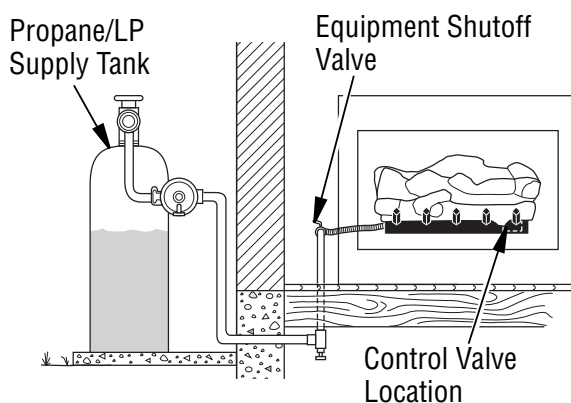

Figure 15 - Checking Gas Joints (Propane/LP Only)
3. Check all joints from gas meter to equipment shutoff valve for natural gas or propane/LP supply to equipment shutoff valve for propane/LP (see **Figure 15 or 16**). Apply noncorrosive leak detection fluid to all joints. Bubbles forming show a leak.
4. Check all joints from equipment shutoff valve to gas valve (see *Figure 15 or 16, Page 15*). Apply noncorrosive leak detection fluid to all joints. Bubbles forming show a leak.